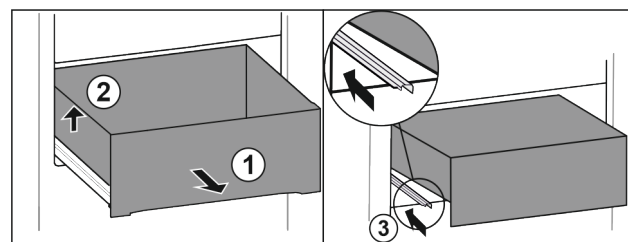

Fig. 88
- ▶ Pull out drawer as far as it will go. Fig. 88 (1)
- ▶ Lift drawer on the left. Fig. 88 (2)
- Insert left rail. *Fig. 88 (3)*